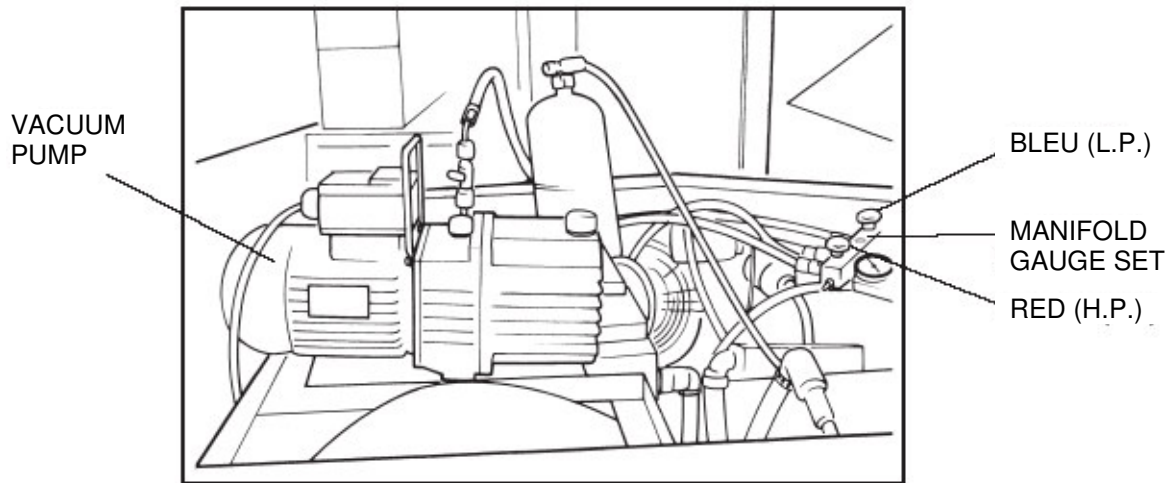

Fig. 11 Vacuum pump
- vacuum pump (ref. Fig. 11),
- 2) Connect the vacuum pump (ref. Fig. 11) to the manifold gauge set (connection 8) and, after the opening of the valves 5 and 6, evacuate the circuit till a pressure < 100 Pa (with the pump ON).
- 1) Connect the vacuum pump (ref. Fig. 11) to the manifold gauge set (connection 8) and the gas valve (bleu) of the recovery cylinder to the connection 9 and, after the opening of the valves 4 and 5, evacuate the cylinder for about 10 minutes. Close the valves and disconnect the cylinder.